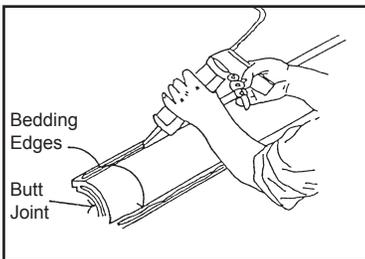

Figure 1
- For large profiles (8" face or larger) apply 1/4" bead of DegaBond 948 #33333 to the top and bottom bedding edges on the back side of moulding (*see Figure 1*) or apply DegaBond 948 #33333 to inside wall and ceiling marks.